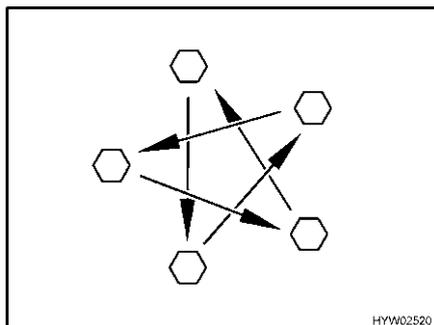

Fig. 228 Tighten the wheel nuts or wheel bolts cross-wise
- Check regularly that the wheel nuts or wheel bolts are firmly seated. Retighten the wheel nuts or wheel bolts of a changed wheel cross-wise (Fig. 228) after 50 km (30 miles). See section 13.5.2 for tightening torque.
- ▷ Tighten the wheel nuts or wheel bolts cross-wise (Fig. 228).